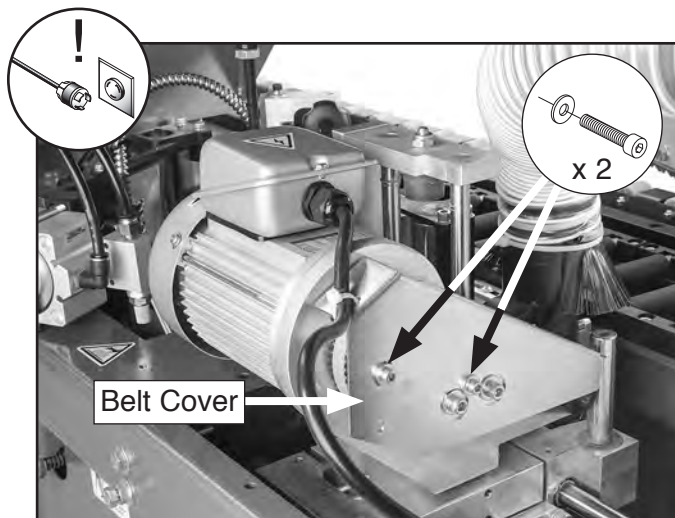

Figure 104. Location of cap screws that secure end trimmer belt cover.
3. Remove (2) M5-.8 x 12 cap screws with flat washers from end-trimmer belt cover, then remove cover (see **Figure 104**).